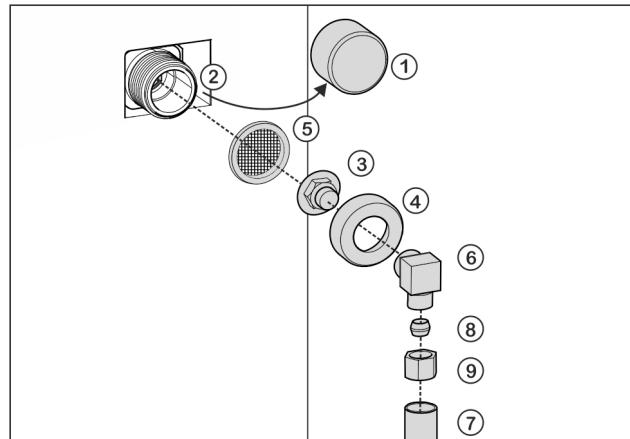

Fig. 19
- ▶ Remove cap Fig. 19 (1) from solenoid valve Fig. 19 (2).
- Insert coupler *Fig. 19 (3)* into union nut *Fig. 19 (4)*.
- Insert the filter *Fig. 19 (5)* with the recess pointing down towards the coupler *Fig. 19 (3)*.
- Screw the union nut *Fig. 19 (4)* by hand onto the thread of the solenoid valve *Fig. 19 (2)* until it is firmly in place.
- Screw on angle piece *Fig. 19 (6)*.
- Connect the water pipe *Fig. 19 (7)* (e. g. 1/4" OD copper pipe) with the clamp ring *Fig. 19 (8)* and nut *Fig. 19 (9)* to the elbow connector *Fig. 19 (6)*.
- If necessary: Fasten the water pipe *Fig. 19 (7)* to the housing with the guide clip.
- Put angle piece *Fig. 19 (6)* to one side.
- Connect the water pipe *Fig. 19 (7)* (e. g. 1/4" OD copper pipe) with the clamp ring *Fig. 19 (8)* and nut *Fig. 19 (9)* to the coupler *Fig. 19 (3)*.